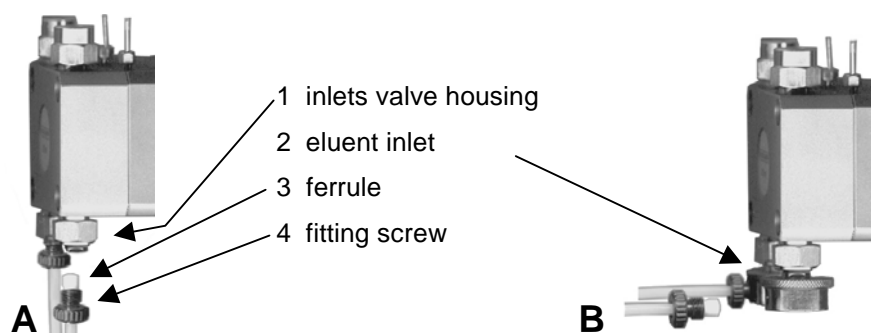

Fig. 5 100, 250 and 500 ml pump head: hydraulic connections
Solvent tubings are connected to the pump head according to Fig. 5. Make sure that the flat side of the ferrule is directed to the pump head and that the fitting screw is fastened hand tight. According to the local conditions the tubings can be connected either to the inlets valve housing (A) or to the eluent inlet (B).